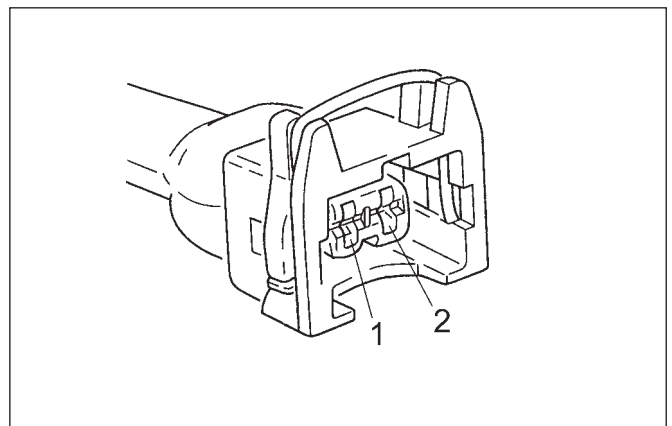

Fig. 3 Electric switch over valve connector
Note: The connector polarity can vary from vehicle to vehicle. The voltage supply is present at contact 1 or 2, Fig. 3. The other contact is intended for ground control purposes.
–Depending on vehicle, check voltage at connector contact 1 or 2, Fig. 3 and ground.